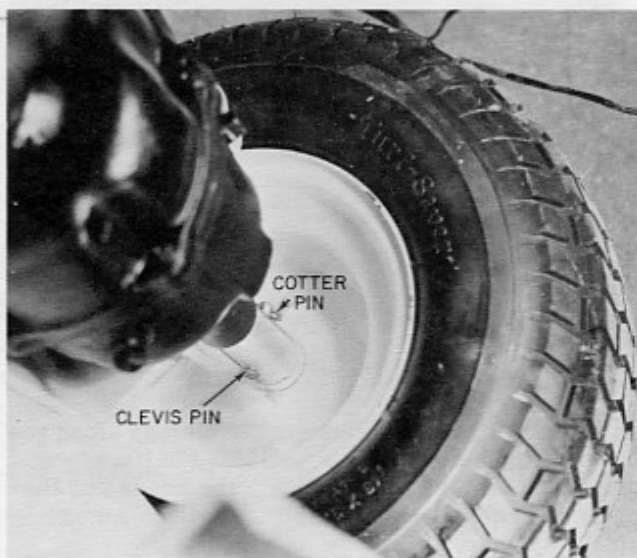

Figure 1
5. Install the rear wheels with the extended portions of the wheels' centers toward the tractor. Align the cross-holes of the wheel centers with the corresponding holes in the axle. Insert clevis pins in the holes and secure with cotter pins. (See Figure 1.)